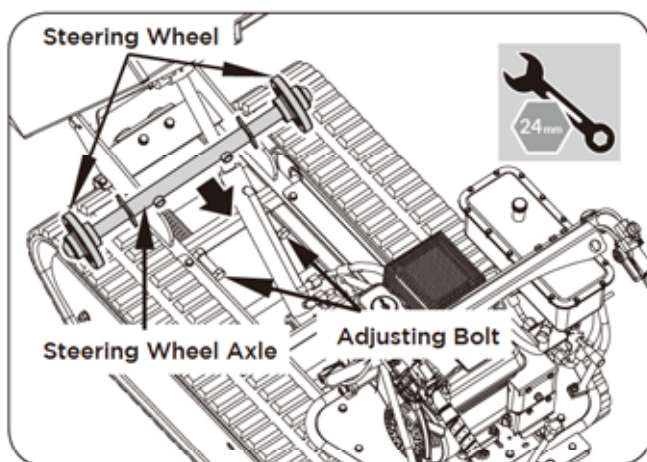

Figure 11d
5. Loosen the adjusting bolts and pull the steering wheel axle toward the engine, then track will be loosen. (See **Figure 11d**)